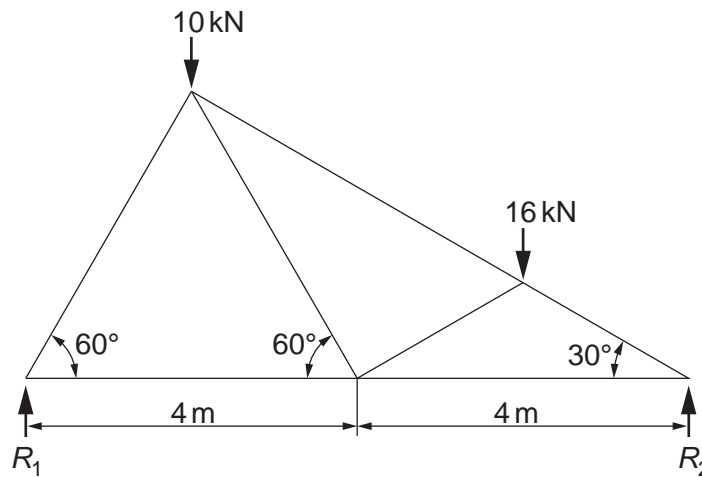

Fig. 4
- (b) Fig. 4 shows a loaded roof truss.